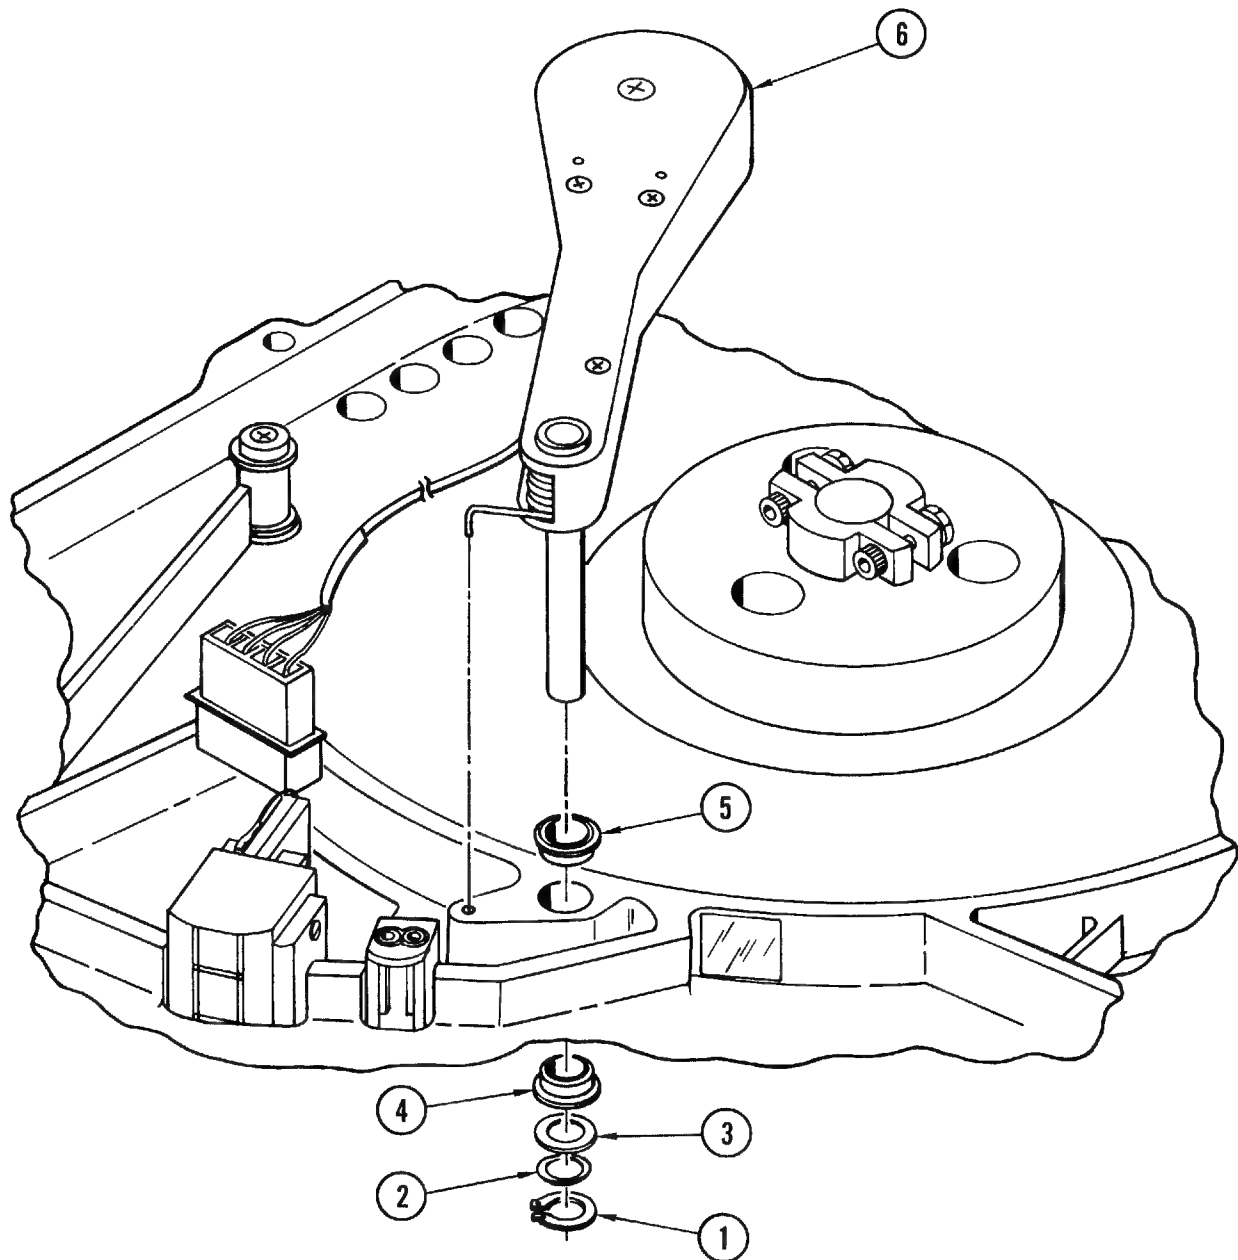

Figure 4-13. Tachometer Assembly
4-27. Removal and Replacement (Figure 4-13). Place the transport in service access position (paragraph 4-3) and proceed as follows:
- b. Remove grip ring (1, Figure 4-13), wavespring washer (2), and shim(s) (3) from tachometer post beneath top plate and save for reassembly.
- c. Remove tachometer assembly (6) from top plate, pulling wire harness and connector carefully through hole.
- d. If lower bearing (4) or upper bearing (5) was removed, apply Loctite 601 sparingly to outside surface of replacement bearing before installing.
- e. Install replacement tachometer assembly through upper bearing (5) and lower bearing (4), seating end of spring in adjacent small hole in top plate.
- f. Install shim(s) (3), wavespring washer (2), and grip ring (1). If necessary, install additional shims (3) to compress wavespring half of its height when grip ring is installed.